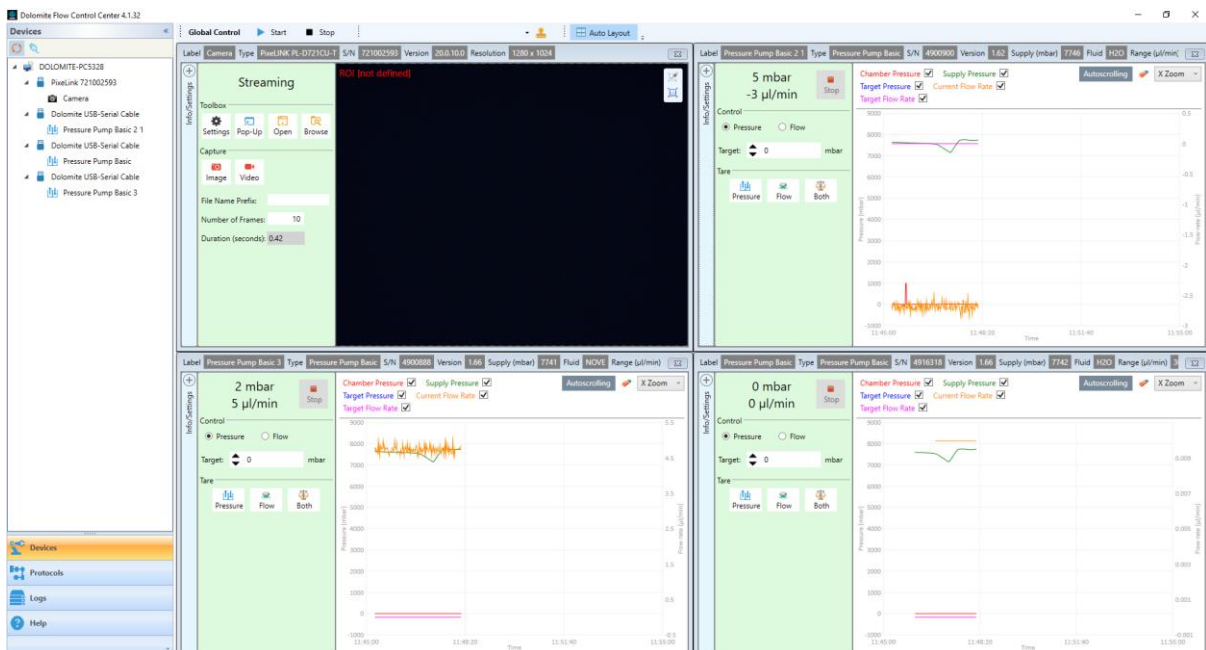

Figure 35 Flow Control Center with Mitos System Hardware Connected
Step 4: Devices that are connected and powered on will populate within the software. As the P-Pumps are controlled individually they will appear within their own individual user interface alongside the Microscope. Flow Rate Sensors will not appear in their own windows (Figure 35).